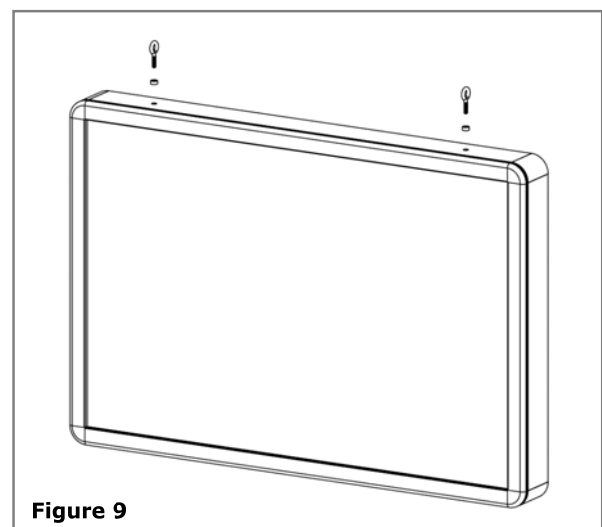

Figure 9
2. **Suspended Option** – Hanging loops are attached to the unit when constructed. Attach appropriate hanging hardware (chain, cables, etc.) to suspend unit. Cord may be tied to chain or cables with tie-wraps. **See Figure 9.**